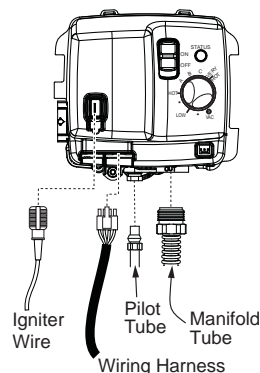

FIGURE 26.
2. Move the ON/OFF switch on the gas control valve/thermostat to the "OFF" position to turn off the water heater. (Figure 26).
5. Disconnect the wire harness, flammable vapor sensor wires, and igniter wire from the gas control valve/thermostat. Disconnect pilot tube (7/16" wrench) and manifold tube (3/4" wrench) at the gas control valve/thermostat (Figure 26). **NOTE:** L.P. Gas systems use reverse (left-hand) threads on the manifold tube